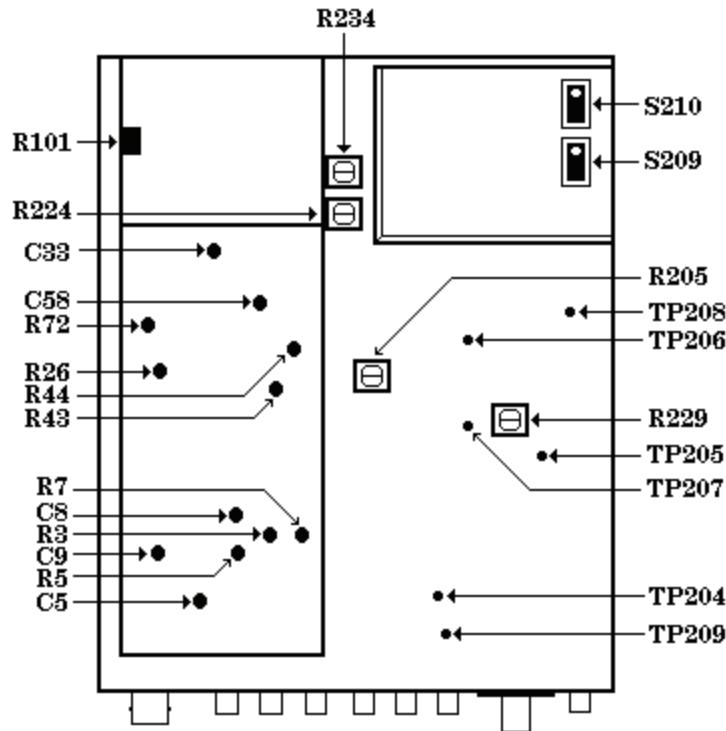

Figure 1. Test points and adjustment locations - top view.
- b. Observe that slide switches S209 and S210 (fig. 1) are set for proper 120 V operation (both slide switches to left with white dot toward rear).
All test points and adjustments are shown in figure 1. Remove top cover only to make connections or adjustments and replace immediately upon completion.
- (1) Connect calibrator **OUTPUT HI** and **LO** to TI INPUT.
- (2) Press and release all front panel pushbuttons to out position, except **LO RANGE ENABLE** and **POWER**.
- (3) Connect a short between TP204 and TP209 (fig. 1).
- (4) Set calibrator for a 1 V, 500 Hz output. Record TI indication.
- (5) Press **RANGE HOLD/AUTO** pushbutton to **HOLD**.
- (6) Set calibrator for a 0.1 V, 500 Hz output. If TI does not indicate one-tenth of value recorded in (4) above, perform **b** (1) and (2) below.
- (7) Press and release **RANGE HOLD/AUTO** pushbutton to **AUTO**.
- (8) Set calibrator for a 2.5 V dc output.
- (9) Press **FUNCTION AC+DC/AC** pushbutton to **AC+DC**. If TI does not indicate between 2.388 and 2.612 V, perform **b** (3) below.
- (10) Set calibrator for a 0.25 V dc output. If TI does not indicate between 0.2388 and 0.2612 V, perform **b** (4) below.
(11) Press and release **FUNCTION AC+DC/AC** pushbutton to **AC**.
(12) Set calibrator for voltages and frequencies listed in table 3. If TI does not indicate within limits specified, perform appropriate adjustments.
(13) Remove short connected between TP204 and TP209 (fig. 1).
1Interaction exists between R44 and R205 (fig. 1). Repeat both adjustments as required.
2Interaction exists between C8 and C5 (fig. 1). Repeat both adjustments as required.
- (1) Adjust R101 (fig. 1) until TI indicates one-tenth of value recorded in **a** (4) above (R).
- (2) Press and release **RANGE HOLD/AUTO** pushbutton to **AUTO** and repeat **a** (4) through (6) above.
- (3) Adjust R72 (fig. 1) until TI indicates between 2.49 and 2.51 V (R).
- (4) Adjust R26 (fig 1.) until TI indicates between 0.249 and 0.251 V and repeat **a** (8) through (10) above (R).